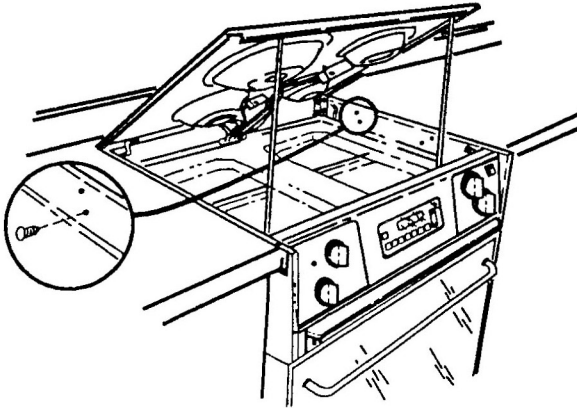

Fig. 6
3. Raise lift-up cooktop and support it with cooktop support rod (see Fig. 6).
5. Drill 1/8" diameter pilot holes into countertop using holes in upper side panels. Attach range to countertop with four screws provided in literature package (see Fig. 6).